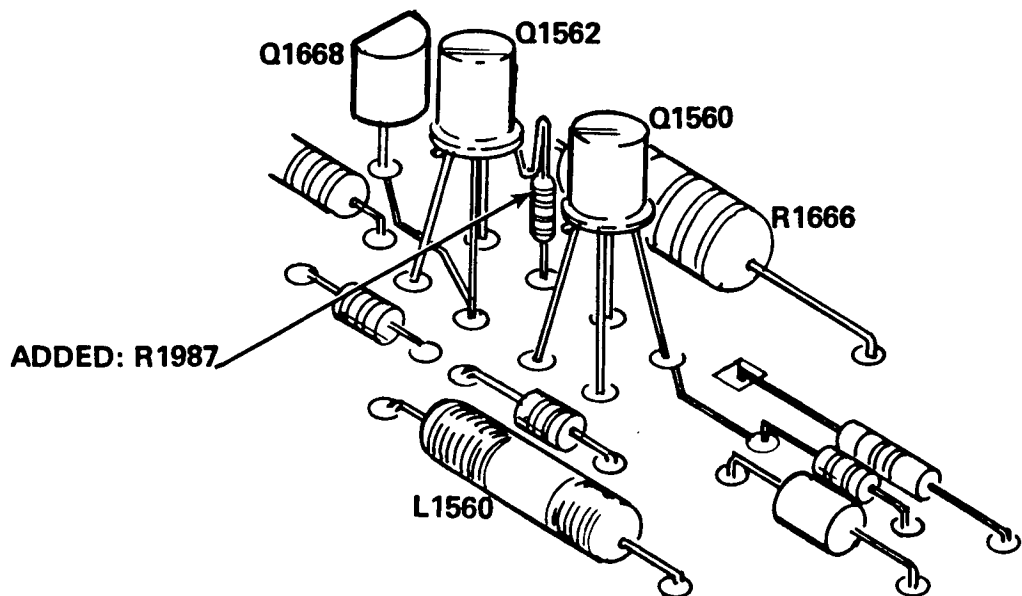

Figure 7. - R1987 and Q1562 configuration.
- ( ) 8. Unsolder the collector of Q1562 transistor, from the circuit board pad, located nearest to R1666. Solder one lead of R1987, pn 313-1201-00, to the collector lead of Q1562 and solder the remaining lead to the circuit board pad from which the collector was removed, refer to Figure 7.
**U350 or U552**, order modification kit pn 045-0152-00. This kit contains two (2) microcircuits.